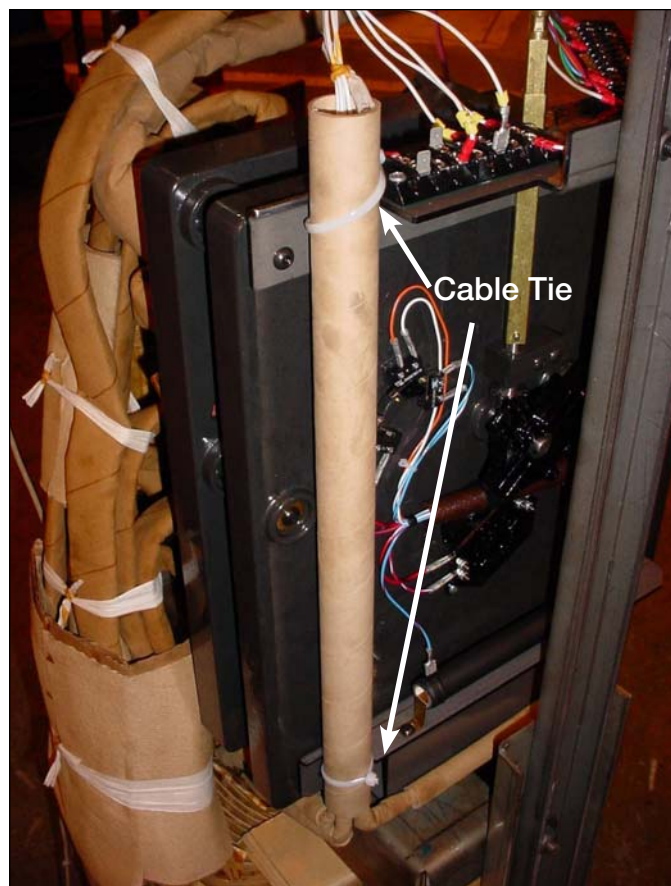

Figure 3.
2. Use a pair of diagonal side cutters to cut and remove the cable-ties from the control winding hard insulation tube and tap changer top bracket assembly. See Figure 3.